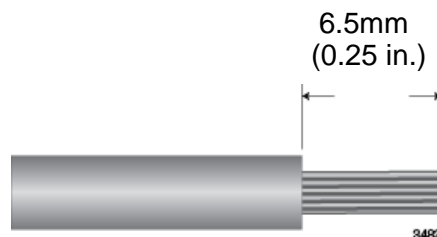

Figure 35. Stripping an Alarm Wire
1. Strip 6.5mm (0.25 in.) of insulation from the ends of the wires with a wire insulator stripper. Refer to Figure 35.